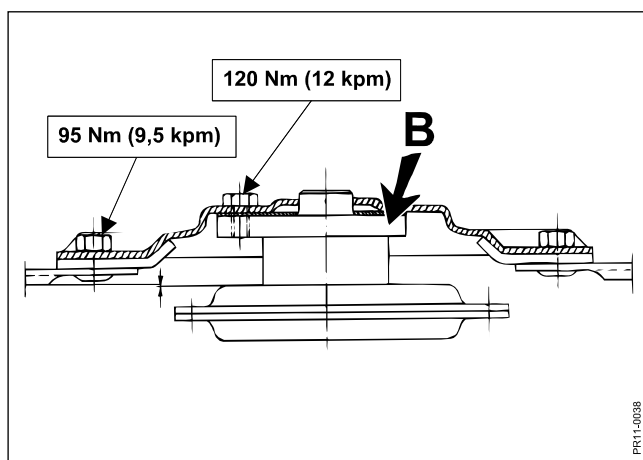

Fig. 5-14
- Fig. 5-14** Make sure that the bolts have been tightened as shown.